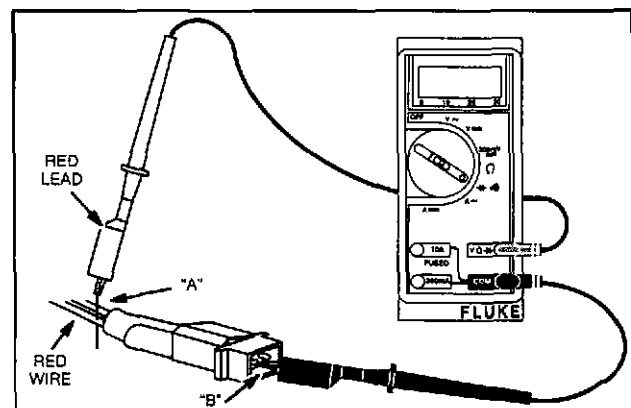

Fig. 15 - Testing Diode
4. Attach RED test lead clip to point "A" and BLACK test lead clip to point "B," Fig. 15. (It may be necessary to pierce wire with a pin as shown.)